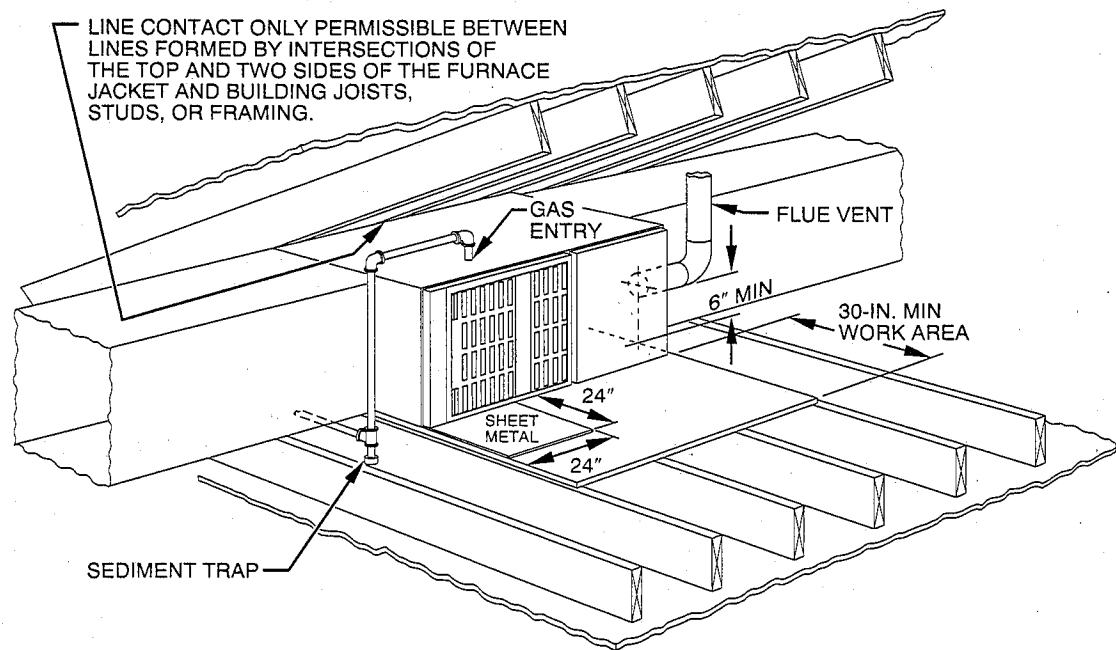

Fig. 7—Typical Attic Installation
The furnace can be installed horizontally on either the left-hand (LH) or right-hand (RH) side. A typical attic installation is shown in Fig. 7.
Construct working platform on location where all required furnace clearances are obtainable. (See Table 1 and Fig. 7.)
2. Connect gas supply pipe. See Fig. 7 for typical piping entry.
5. Install 24- X 24-in. sheet metal shield on platform in front of louvered control panel as shown in Fig. 7.